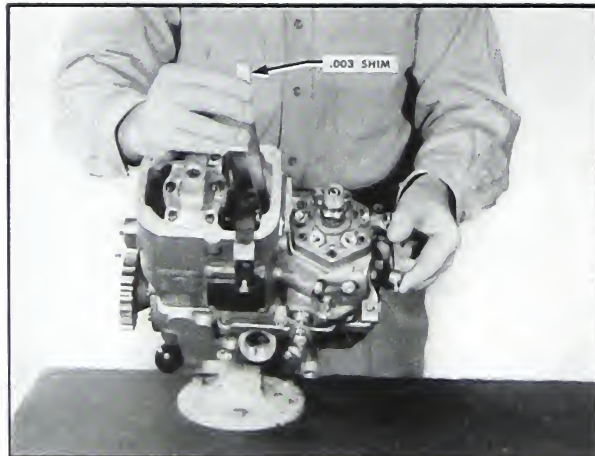

Fig. 5-364. Insert shim stock between vertical lever and zero stop
4. With a long piece of .003" shim stock between vertical lever roller and zero-stop sleeve, turn adjusting screw out until throttle lever starts moving downward. Turn adjusting screw in until throttle lever just stops moving upward. Turn one-half turn more and lock. Fig. 5-364.